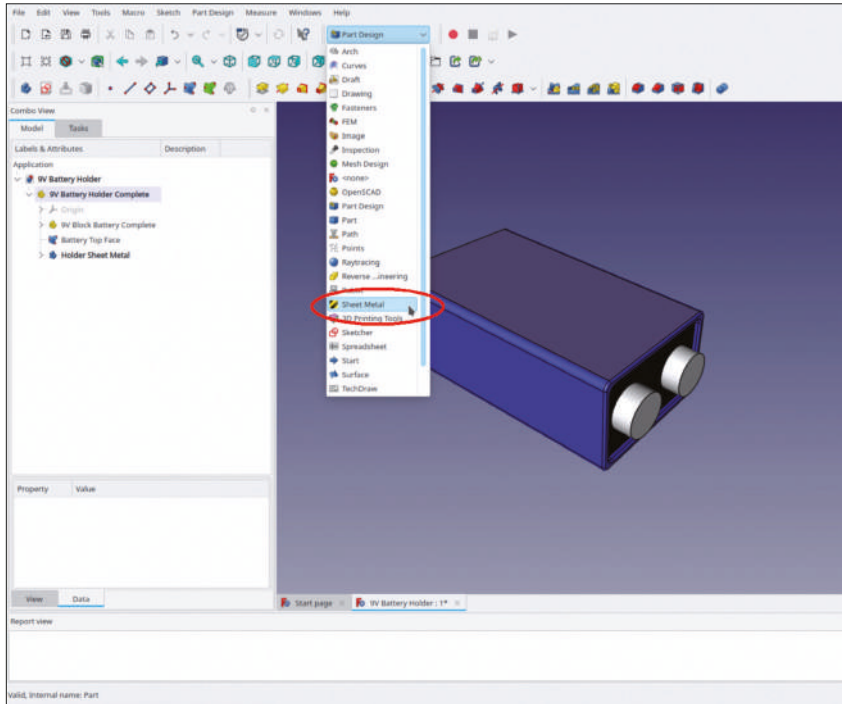

Figure 5-5
7. Activate the Std-Part-Container '9V Battery Holder Complete'. For our battery holder, click the blue 'Create Body' tool button and rename the new body to 'Holder Sheet Metal' (Figure 5-5).
8. Switch to the 'Sheet Metal' workbench (Figure 5-5).